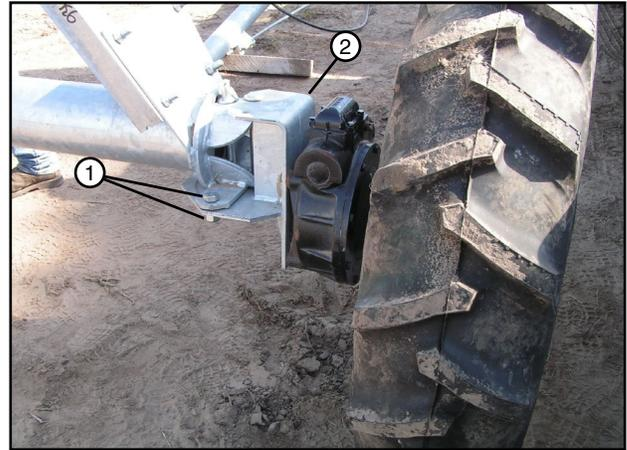

Figure 35-1 Towing Position.
2. Remove and retain the hardware securing gear box mount in the operation position. See figure 35-1.